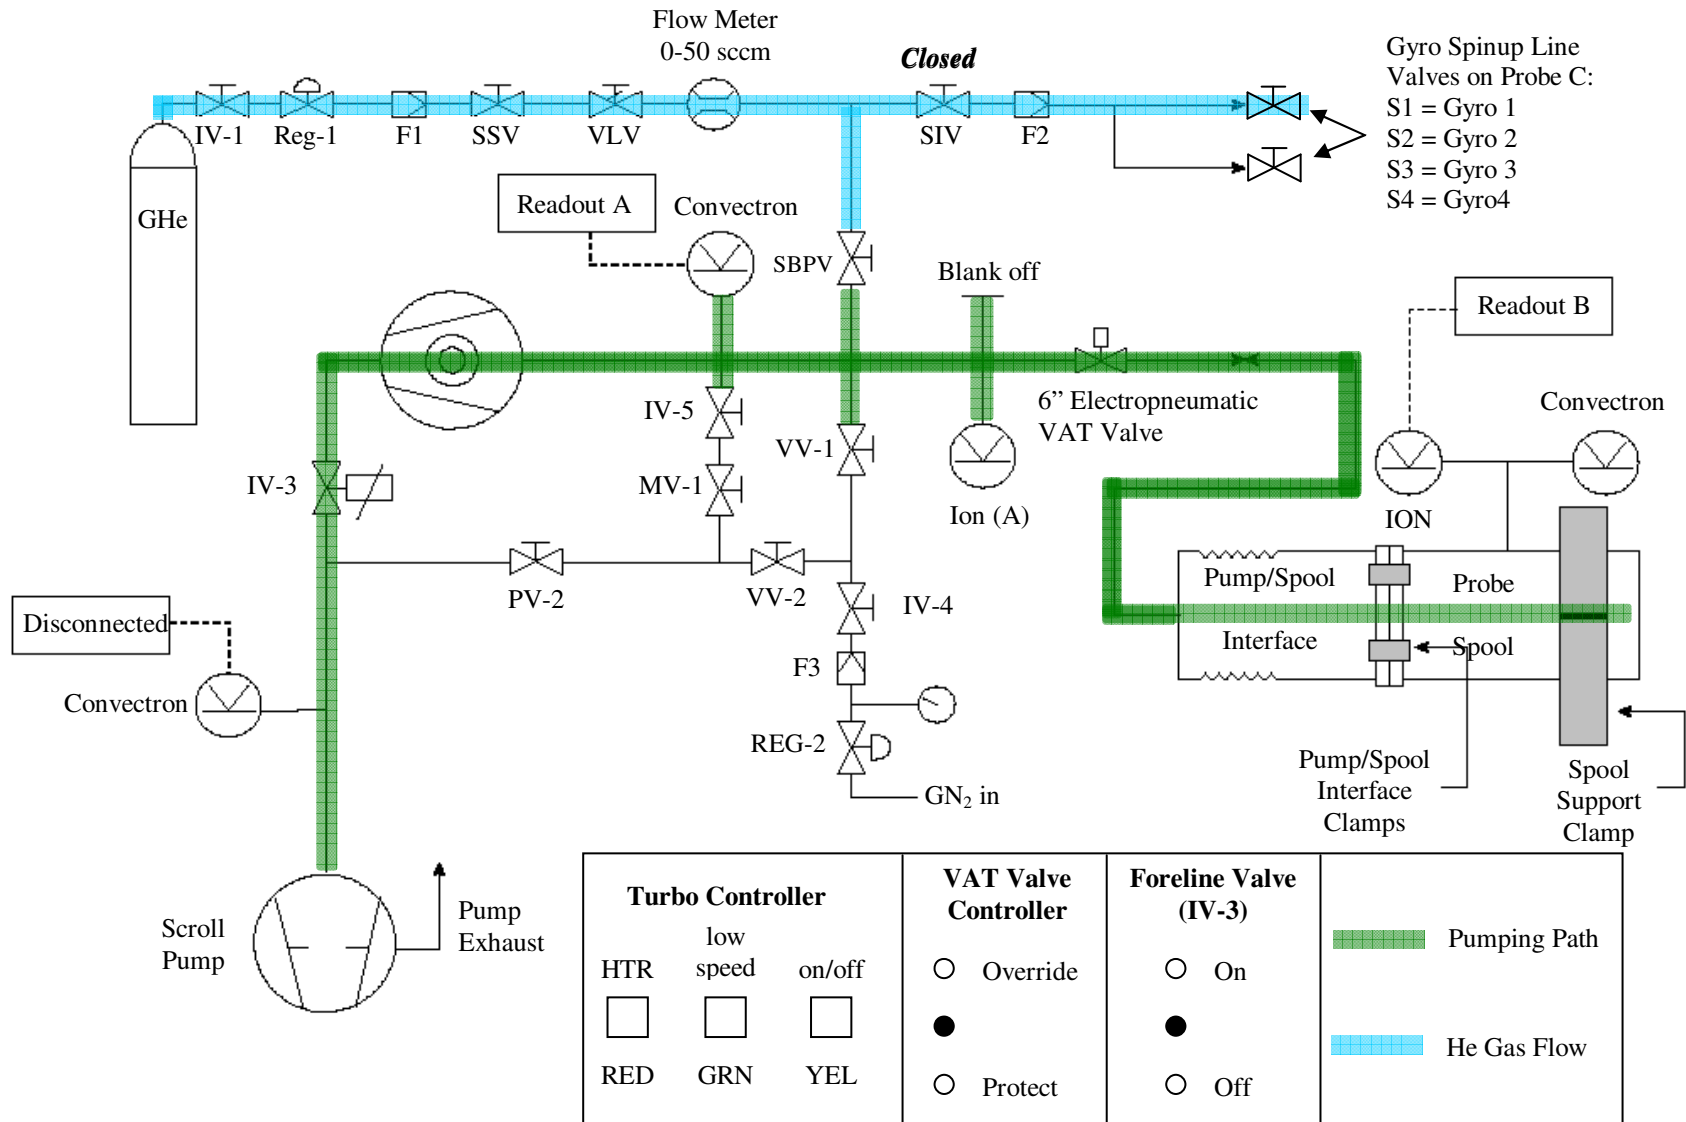

Figure 4: Spin Gyroscope
- 6.3.2 Close SBPV. Wait for however long it is intended to flow gas to the gyroscope. Initially, this should only be for a few seconds. The configuration should now be as in Figure 4. _____